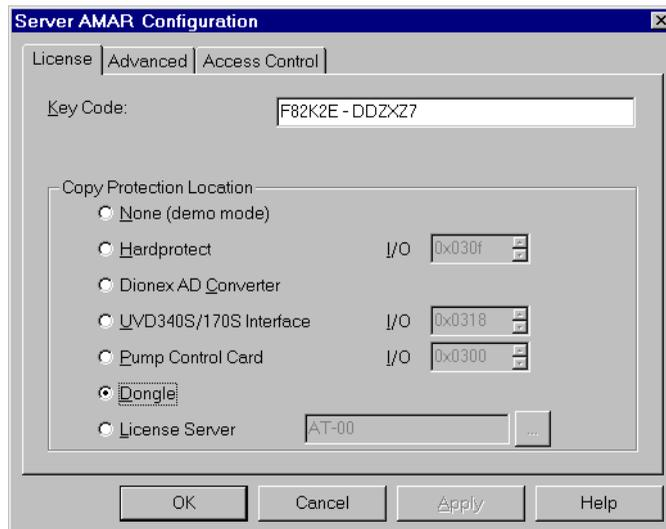

Figure B-6. Server Configuration Properties
4. Select **Edit>Properties** to open the Server Configuration properties dialog box (see Figure B-6). Click **Dongle** and then enter the **Key Code** provided with the Chromeleon license. Click **OK**.